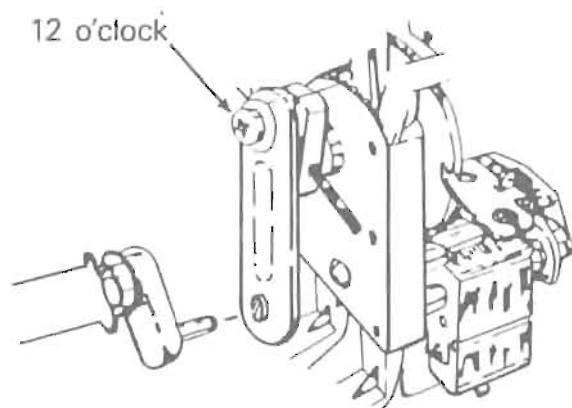
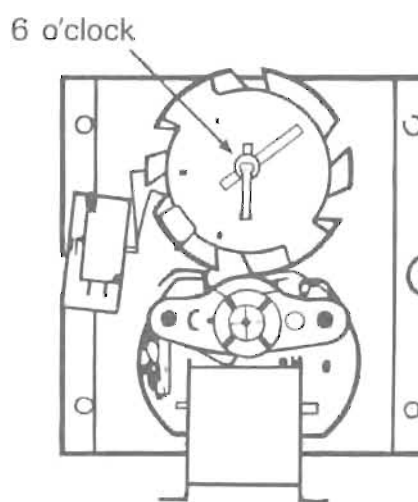

Fig. 10
Fig. 11
1. Make sure the hole through the rear shaft is in a horizontal plane. (If a pin were inserted in the hole, the pin would be horizontal). See Fig. 10, page 26.
2. Slide the Drive Arm (with linkage attached) onto the rear shaft as shown. See Fig.10, page 26.
6. Install the vending cam onto the front shaft of the motor making sure that the lock tab is at 6 o'clock as shown. See Fig. 11, page 26.
NOTE: When the screw holding the linkage arm to the drive arm is at the 12 o'clock position (See Fig. 10), the lock tab will be at the 6 o'clock position (See Fig. 11).